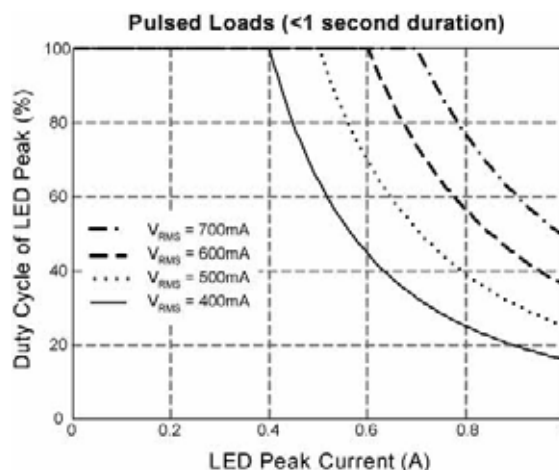

Figure 9. Duty Cycle vs. Peak Current for Fixed RMS Current
The graph in Figure 9 shows the peak LED current which can be pulsed at a given duty cycle (DC) to stay within SOA limits of 400mA to 700mA.
- Now looking at the curve in Figure 9, using the next lower value of 500mA RMS current, we can see that the 850mA peak can be driven at a duty cycle of ~33% (or 1 second out of every 3 seconds). That is well within our target of 300ms.